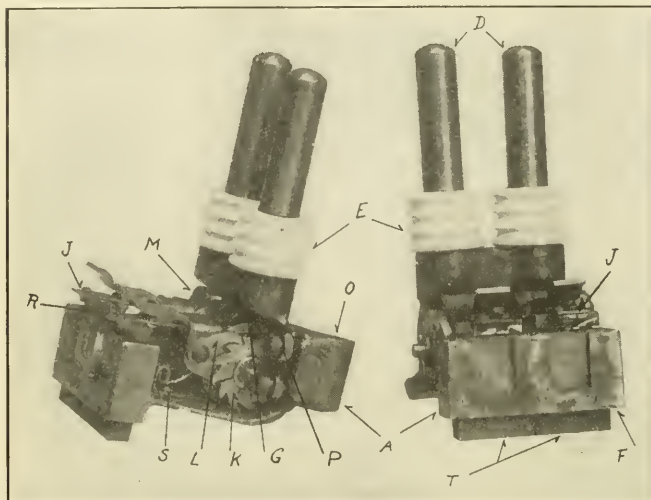

FIG. 12. THE BRUSH HOLDER.
One of the most important parts of the railway motor is the brush-holder. Fig. 12 shows two views of the type used by the Westinghouse Electric & Manufacturing Company on their railway motors. As the name implies this part of the motor is to carry the brush (T) which is in contact with the commutator and through which the current flows into and out of the armature coils. The brushes are blocks of carbon $\frac{5}{8}$ in. to $\frac{3}{4}$ in. wide which fit the holder (A) snugly but not tightly as
These brush holders must be exactly located so as to bring the brushes to exactly the neutral points where no sparking will exist. To secure this, the clamps which hold the brush-holders are located by template. At the same time these holders must be insulated from the clamps and this is done as follows: Referring to Fig. 12 the main casting (A) is fitted with two rods about $\frac{3}{8}$ in. to $\frac{1}{2}$ in. diameter, over which are placed mica tubes. To protect this insulation a thin brass tube (D) is placed over the mica. Just previous to assembling the brass tubes the corrugated porcelain insulators (E) are put in place and the whole sealed by an insulating compound. The corrugated insulators are to increase the creepage distance from the holder, which has the full voltage, to the brass sleeves which is ground. With this method of clamping the whole holder can be moved up and down and proper clearance obtained between the commutator and the face (F).